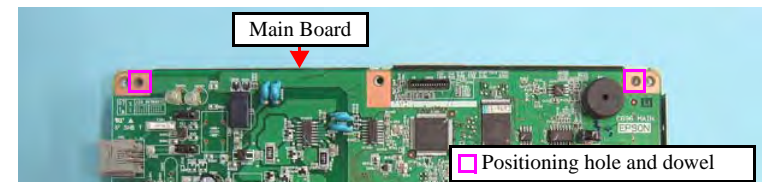

Figure 4-20. Installing the Main Board
- When installing the Main Board to the MB Lower Shield Plate, make sure to match the positioning holes to the dowels (x2) as shown in Figure 4-20.